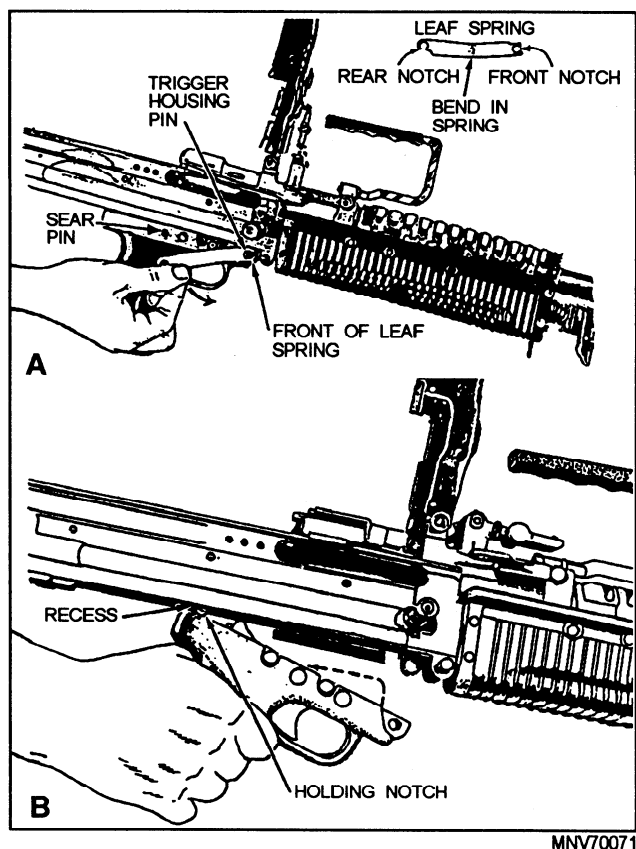

Figure 2-58.—Removing the trigger mechanism grip group.
REMOVING THE TRIGGER MECHANISM GROUP.—The trigger mechanism grip group consists of the trigger mechanism grip assembly (trigger housing, sear, sear pin, sear plunger, sear plunger spring, trigger pin, and trigger), trigger housing pin (interchangeable with the sear pin), and leaf spring. To remove the group, press in on the front of the leaf spring and rotate the front end down to clear it from the trigger housing pin as shown in figure 2-58, view A. Pull forward to disengage the rear notch from the sear pin. Remove the trigger housing pin by pushing it to the left. Slide the trigger housing slightly forward, rotate the front of the housing down, and remove it (fig. 2-58, view B).
2. Engage the holding notch of the trigger housing in its recess in the bottom of the receiver (fig. 2-58, view B). Rotate the front of the trigger housing up and align the holes of the trigger housing with the mounting bracket on the receiver. Insert the trigger housing pin from the left. Engage the rear of the leaf spring with the sear pin (fig. 2-58, view A). Make sure the leaf spring is positioned so that the bent portion is pressed against the side of the trigger housing. Rotate the front of the leaf spring up and engage it with the trigger housing pin.